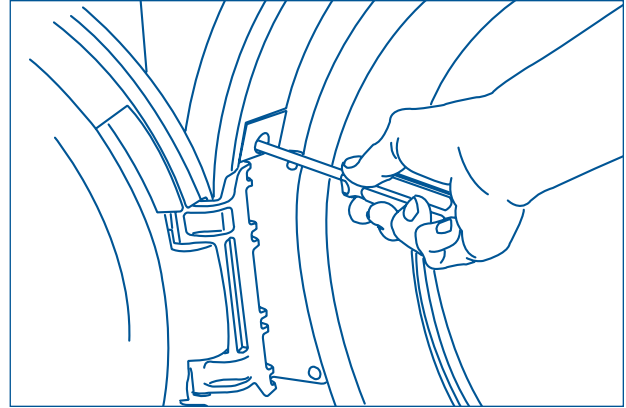

Figure 2-8.
2. Remove and save the trim plug and long, course-thread, panhead screw. (See Figure 2-8)